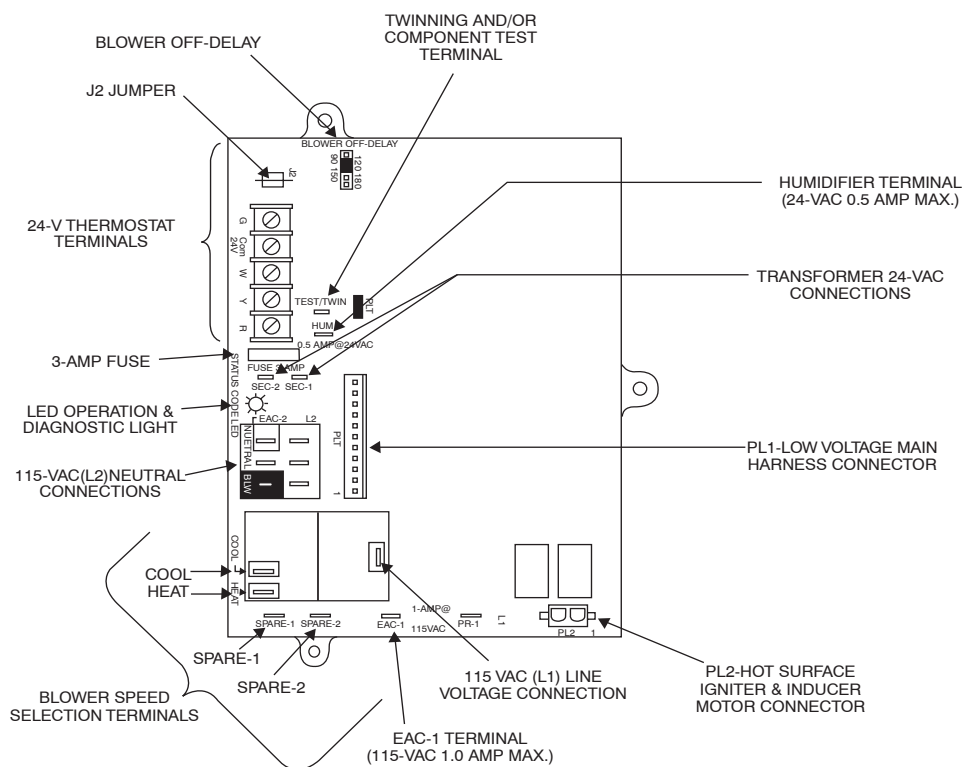

Fig. 13 - Standard Single Stage Control
5. Jumper R-W thermostat connections on the Single Stage furnace control (see Fig. 13 or 14.)
1. Jumper R and W thermostat connections to call for heat. (See Fig. 13 or 14.)